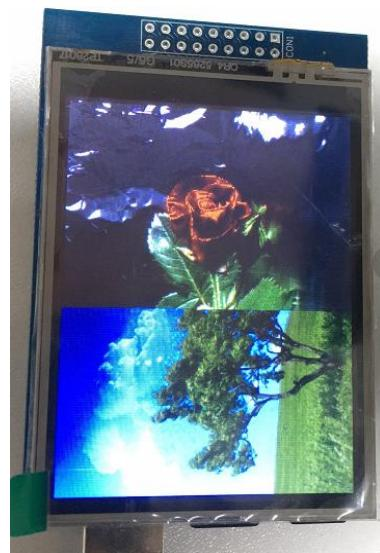

Figure 19
(3) - (5) Same as (2) - (4) in 3.2.1, In Figure 19 is the result.